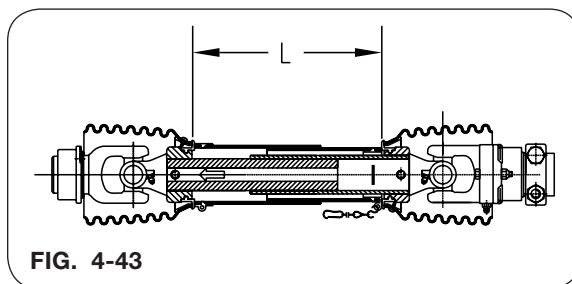

FIG. 4-43
1. Fully collapse PTO shaft and measure length “L” (Figure 4-43).